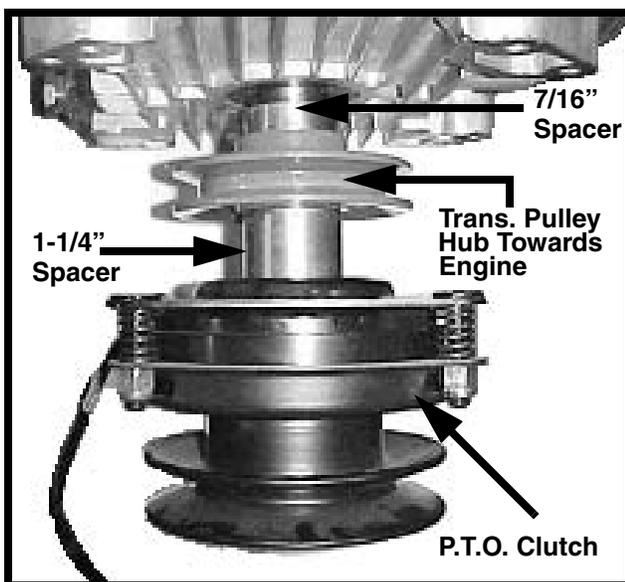

FIGURE 1
4. Inspect & verify all P.T.O. Clutch components are installed in the appropriate order on the engine crankshaft as shown in Figure 1. (Kawasaki Shown).